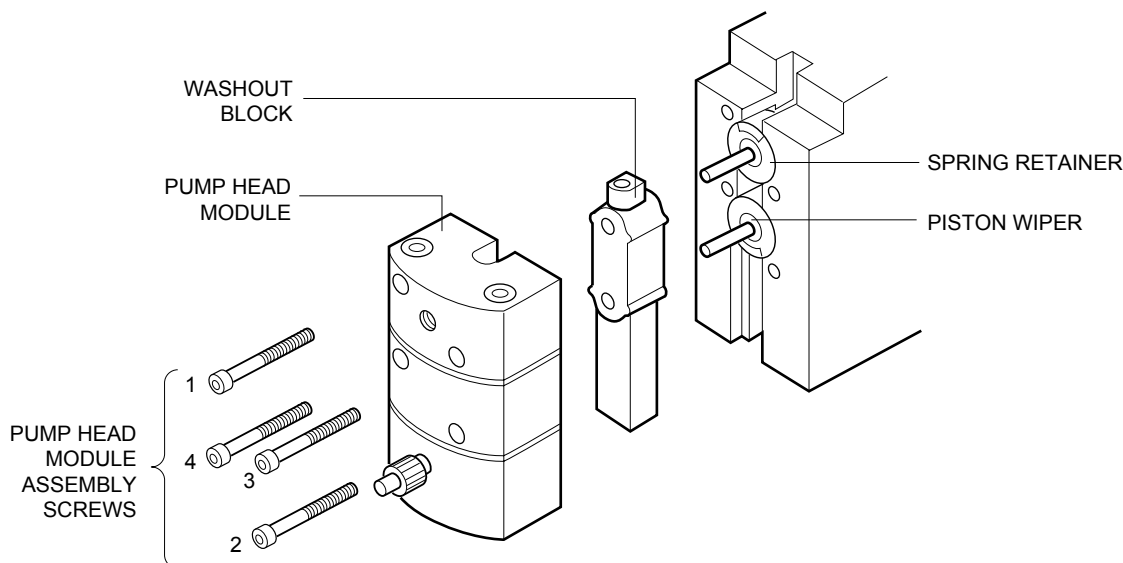

Figure 1. BioLogic Workstation Gradient Pump Mechanism Parts
1. **Replacing a piston seal.** (Refer to Figure 1.)
- g. When both seals have been replaced, reassemble the pump head by reversing the sequence shown in Figure 1. Firstly, wipe the pistons with a dampened cloth to ensure that no crystallized salt residues are present which could damage the new seals. Then, position
- a. Remove the Pump Head Module from the Workstation. Refer to Figure 1 and the previous procedure.
- f. Position the Washout Block over the pistons and set the pump head module back onto the Washout Block on the BioLogic Workstation. See Figure 1. (The Washout Block guides the pump head module in the reattachment process and protects the pistons.)
Piston wipers are available in the event that they are lost during any of the pump maintenance procedures. If the piston wiper has fallen out of the spring retainer, simply place a new piston wiper onto the piston which then rests on the spring retainer. See Figure 1.